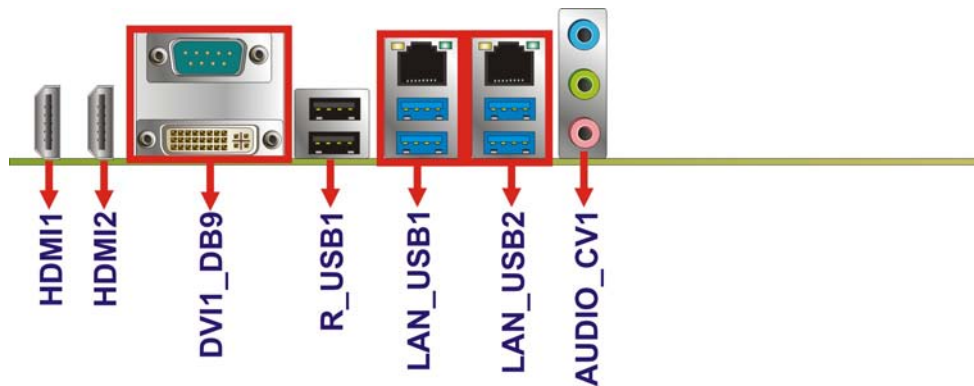

Figure 3-29: External Peripheral Interface Connector
CN Location: See **Figure 3-29**
- CN Location: See **Figure 3-29**